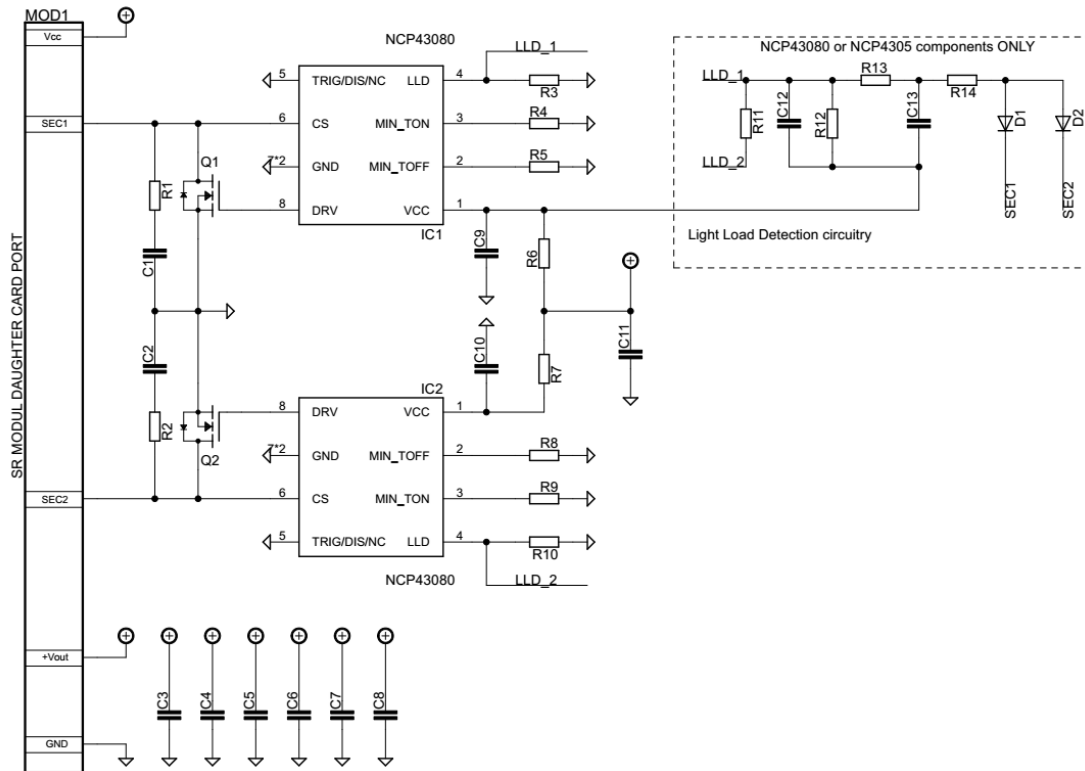

Figure 6. 150 W High Power Density Adapter – Schematic of Synchronous Rectifier Module
Power Switch Module is designed for Silicon Power MOSFETs in small SMD package so-called the Power88. In Figure 6 is Power Switch module schematic, where M2 is the low side switch of PFC front stage, M4 and M5 create LLC half-bridge stage. C3, C4, C5, C6 and C7 are HF decoupling MLCC capacitors with same function as afore mentioned. Q1, Q2, Q6 forms emitter followers with Vcc decoupling capacitors C1, C2 and C41. Emitter followers provide buffering of driving signal in case of need – they can be assembled on purpose. Paralleled resistor–diode pairs (D14–R29, D1–R1, D2–R6) set switching slopes of MOSFETs and this way improving EMI signature.
The Synchronous Rectifier Module (Figures 6, 17, 18) consists of two Single N–Channel SO–8FL Logic Level 60V MOSFETs Q1 and Q2, two synchronous rectifier (SR) controllers IC1–2 NCP43080 (or similar part from NCP430x family) and HF decoupling MLCC capacitors C3–8. RC snubber circuits, composed as R1–C1 and R2–C2, are connected across the drain and the source of each MOSFET, to protect them against voltage spikes. C9–11 and R6–7 are components use to filtering and HF decoupling supply voltage for both SR controllers. R4 (R9) and R5 (R8) serve to set minimum ON and minimum OFF switching times of SR controller. Automatic Light Load and Disable mode (LLD pin) is input modulates the driver clamp level and/or turns the driver off during light load conditions. This feature helps to reduce No–load consumption and improves Light–load efficiency. In Figure 6, the Light–Load Detection Circuitry is formed by resistors R11–14, ceramic capacitors C12, C13 and diodes D1–2. If there is a certain reason to not use LLD feature, use R3 (R10) zero ohms to disable it. Then in this situation Light–Load Detection Circuitry doesn’t have to be assembled. When using NCP4306, R3 (R10) resistors can set specific timing of Automatic LLD or disable it fully and external Light–Load Detection Circuitry is not needed anymore. For more detail please see each device specific datasheet.